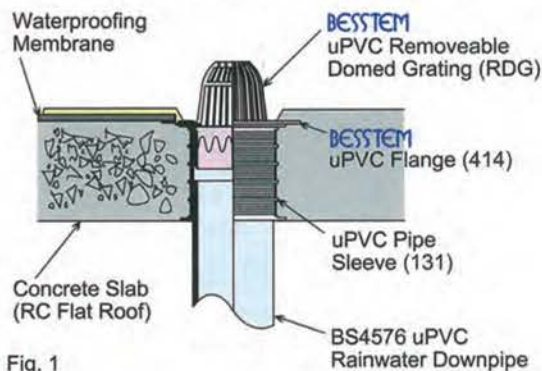
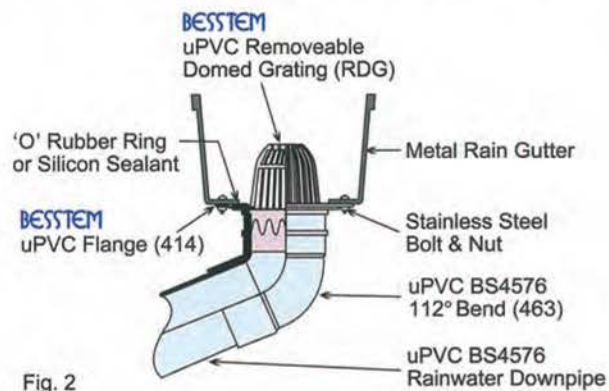

Fig. 1
Fig. 2
Domed Roof Outlet Grating is designed with a removable push fit high domed grating to prevent blockage and it is made with high quality uPVC material with extra Ultraviolet (UV) stabilizers. This Grating is offered with all the inherent advantage of plastics, strength, lightness and resistance to impact and corrosion. The Grating is strong enough to withstand normal foot traffic force. It is suitable to be installed in the reinforcement concrete (RC) roof and scupper drain (see Fig. 1) or metal gutter (see Fig. 2), but it is Not Recommended to install inside the sump unless is vented.